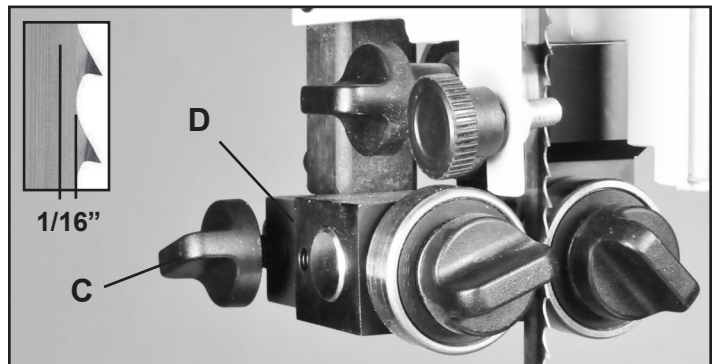

FIGURE 8
2. The guides should be approximately $1/16''$ behind the gullets of the saw blade. If they need to be moved, loosen the back Clamp Handle (Fig. 8, C) and move the Upper Guide Block (D) that holds the guides so that the guides are properly positioned behind the blade gullets. Re-tighten the handle when done. Figure 8.